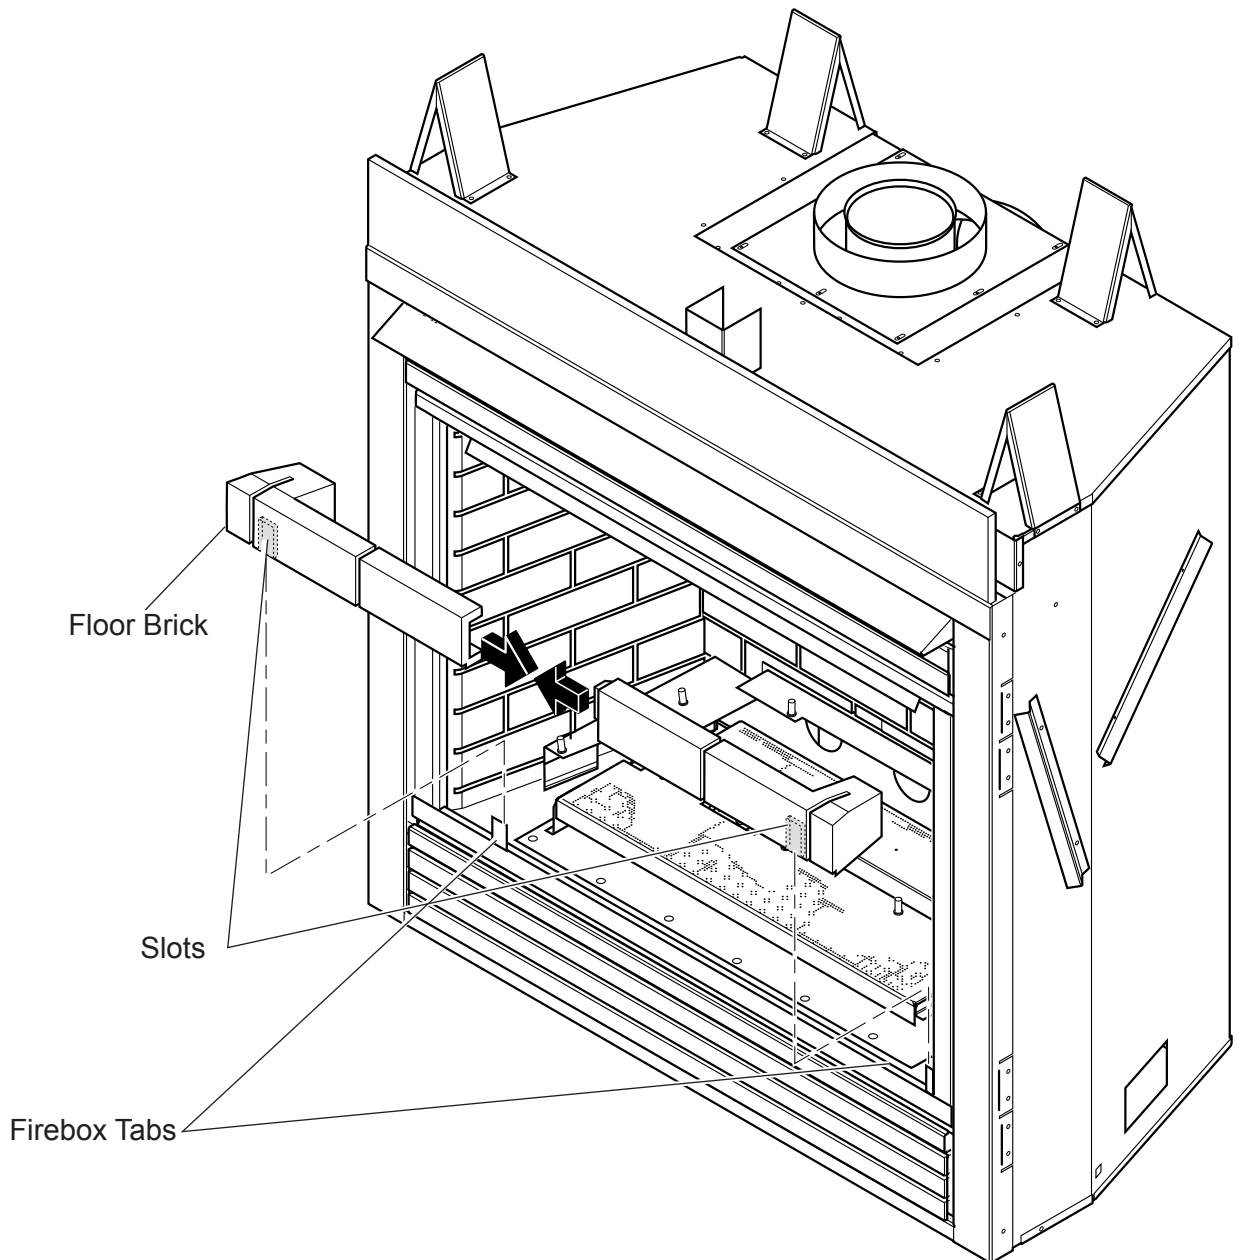

Figure 46 - Installing Floor Brick
2. Put left and right brick pieces together as shown in *Figure 46*.
3. Match two (2) firebox tabs with two (2) slots on bottom of brick. *See Figure 46*.